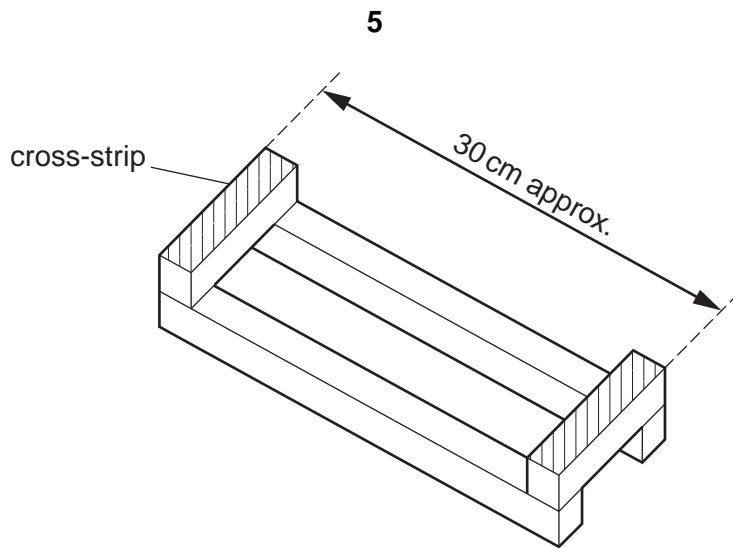
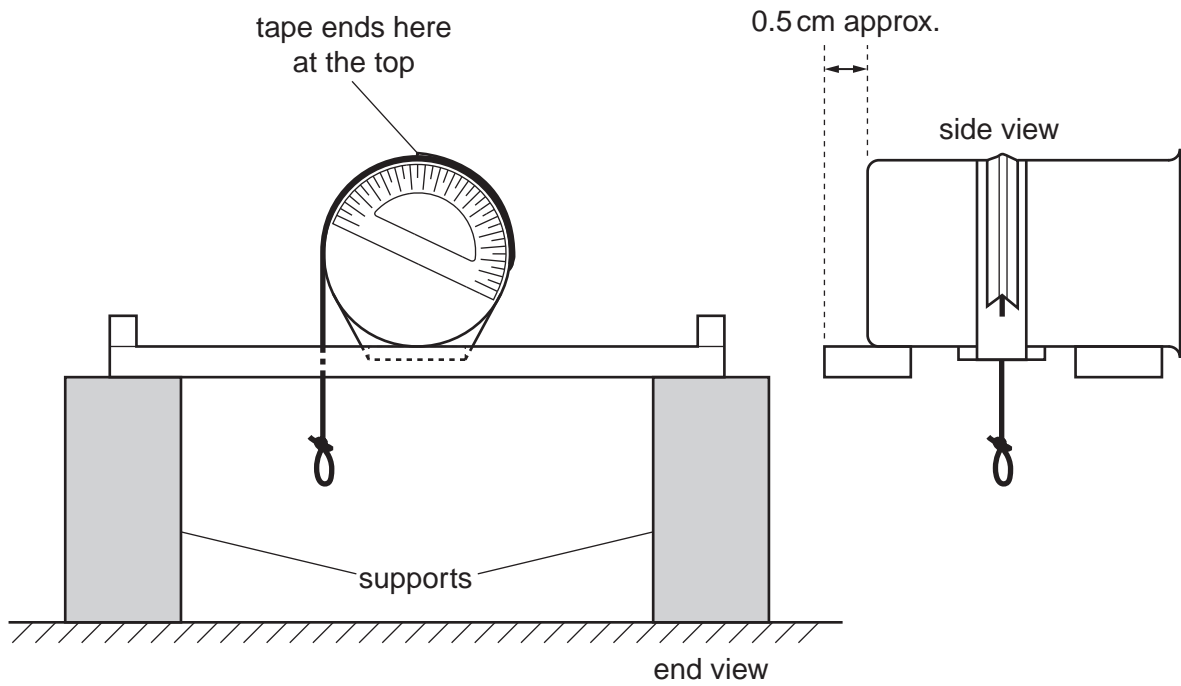

Fig. 1.2
Fig. 1.3
- 6 The wood strips should be fixed parallel to each other using two cross-strips, as shown in Fig. 1.2. Their spacing should be suitable for the apparatus arrangement shown in Fig. 1.3, with a gap greater than the diameter of the attached masses.
- 7 The apparatus should be arranged as shown in Fig. 1.3, and returned to this state if it is to be used by another candidate.